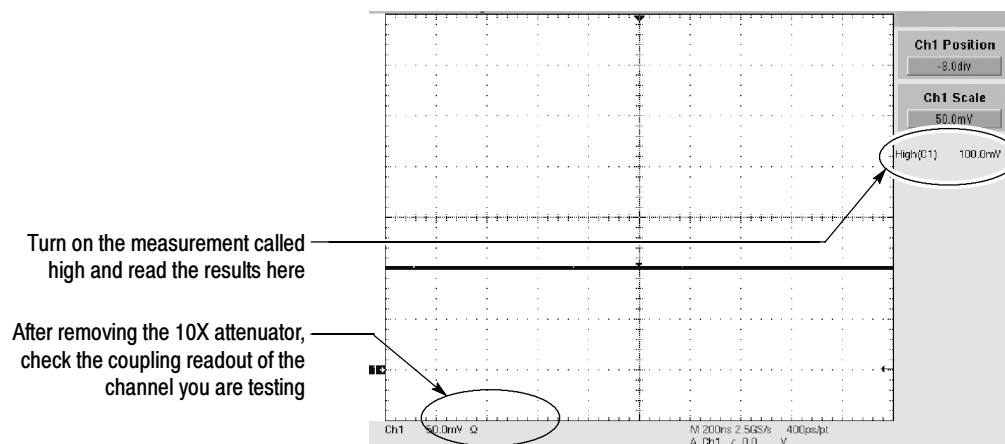

Figure 4-13: Check of maximum input voltage
- d. *Display the test signal:* Set the generator to the level and polarity indicated in the table for the vertical scale, position, and offset settings you have made, or set the generator for the readout indicated in the table for the vertical scale, position, and offset settings you have made. See Figure 4-13.